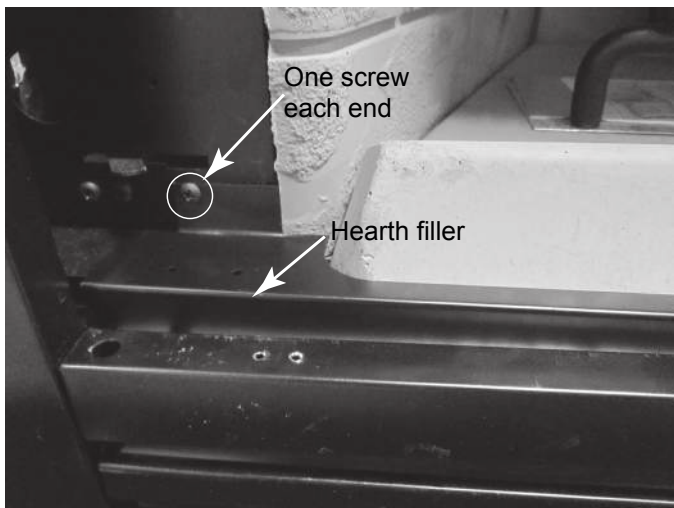

Figure 2
3. Unscrew, remove and discard hearth filler (part covering the front of the hearthstone) by lifting and twisting one end at a time out from behind the columns. See Figure 2.